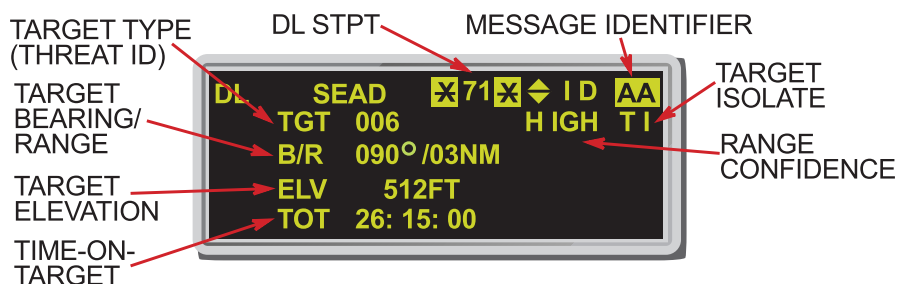

Figure 4-25 SEAD DL Page
- 2) TMS Left: Displays the DED DL page for the DL TOI (Figure 4-25). If the DL TOI is a SEAD target the DED DL SEAD page is displayed.